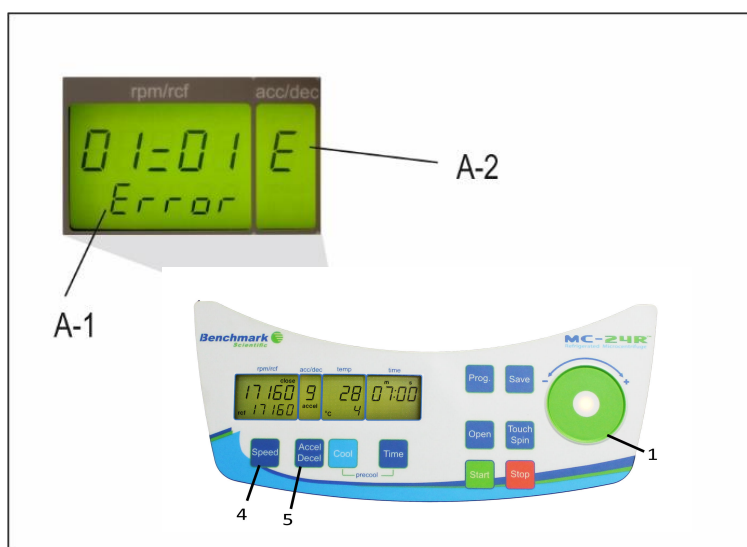

Figure 11
The list of the last 99 error messages can be reviewed by pressing the key, "speed" (4) and scroll through, with the control field (1). The respective error codes appear in the display, "rpm/rcf" (A-1) (see Figure 11). The first two numbers indicate the appeared errors ongoing from 00 to 99, the last two numbers indicate the error code. Please refer to "Table 6: Error Messages", (see APPENDIX P.V).